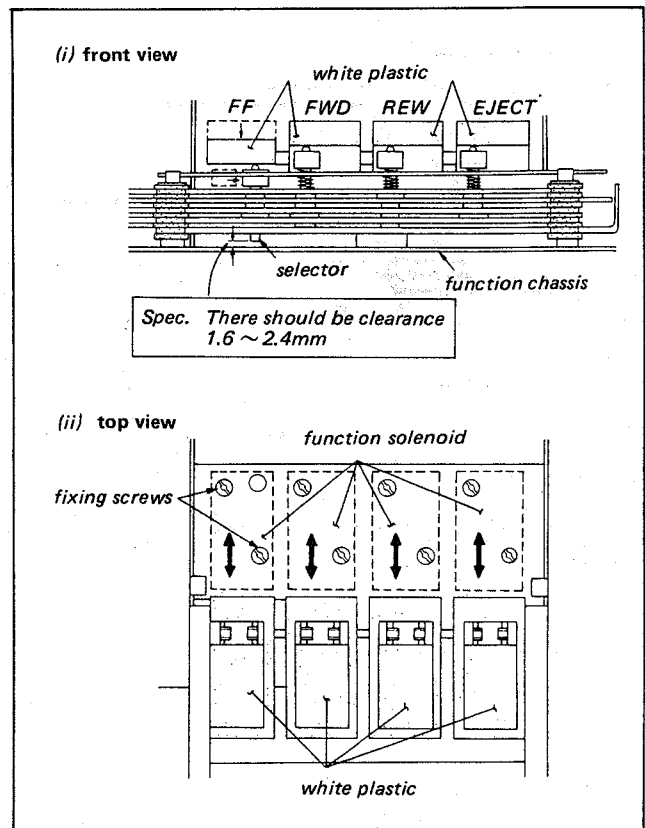

Fig. 4-8. Function solenoid position adj. (power : ON mode)
2. Check to see that the clearance between the chassis and the selector is 1.6 mm ~ 2.4 mm. If not adjust the position of the Function Solenoid as shown in Fig. 4-8.